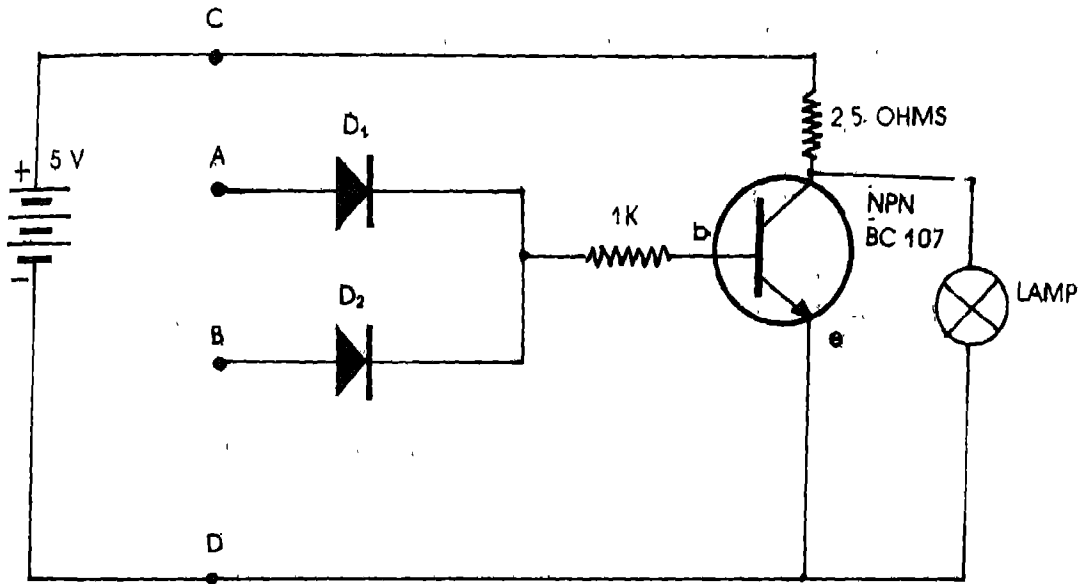

Fig 24.2
1. Make the connection as shown in Fig 24.2.